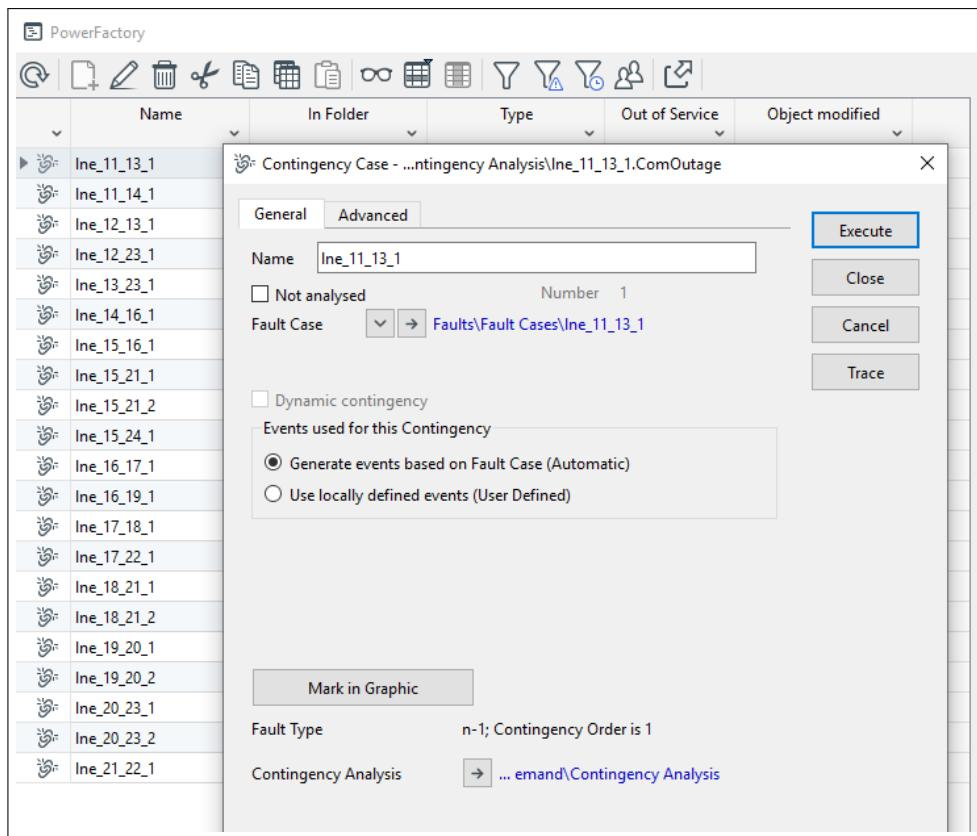

Figure 27.4.3: Contingency Cases (*ComOutage* objects)
As mentioned previously, the contingency cases used by a specific contingency analysis command are stored inside the command itself. Contingency cases are created either by using *Fault Cases* and/or *Fault Groups* (see Section 27.8), or via the *Contingency Definition* command (☒, see Section 27.7.1). Once the contingencies have been defined in the contingency command, the cases can be viewed by using the **Show** button available in the dialog (see Figure 27.4.1). Additionally, the contingency cases within the active study case's contingency analysis command may be viewed by clicking on the *Show Contingencies* icon (☒), located on the main toolbar (only available when the *Contingency Analysis toolbar* is selected). In both cases a new data browser showing the defined contingencies is opened, with the contingencies listed inside. By double-clicking on a contingency from the list, the corresponding dialog for that particular contingency is opened (as illustrated in Figure 27.4.3). The dialog displayed in Figure 27.4.3 shows the following fields:
- **Events Used for this Contingency** As shown in figure 27.4.3, the user can specify whether to generate the events based on the fault case definition (automatically), or to use locally defined events. If the user chooses to use locally defined events, then the *ComOutage* object which defines the contingency (located in contingency command of the study case) can be modified independently.